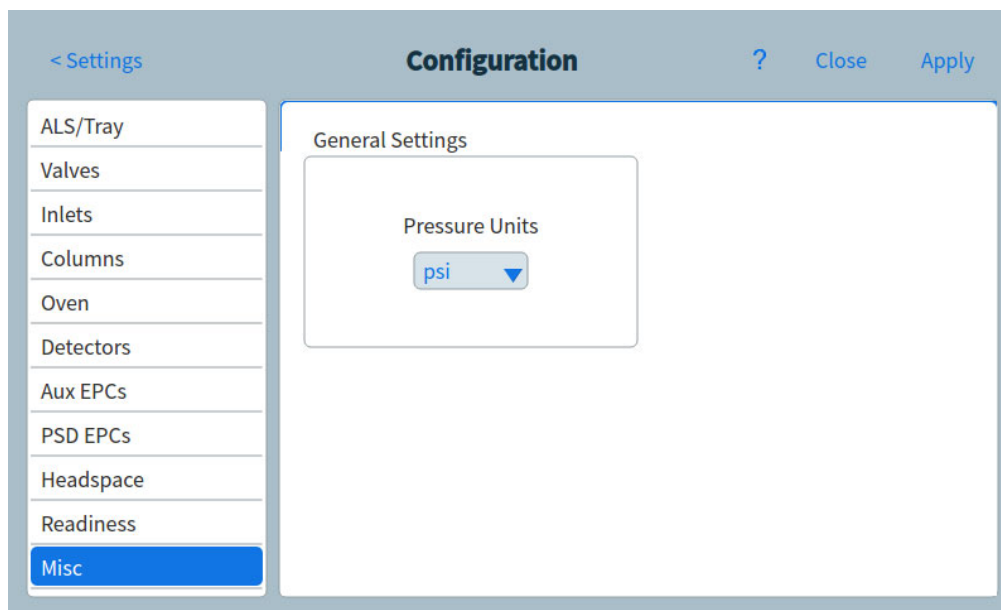

Figure 65. Miscellaneous settings page
- 1 Select **Settings > Configuration > Misc.** See **Figure 65**.